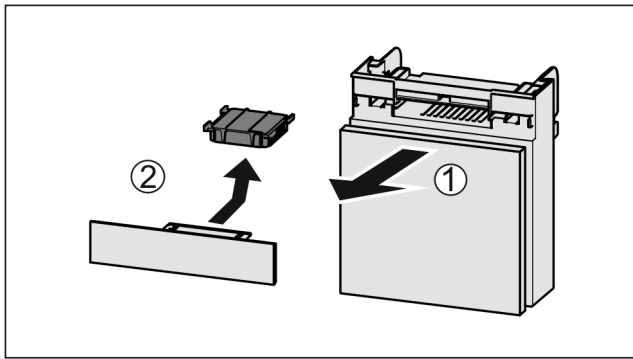

Fig. 76
- ▶ Pull out the compartment Fig. 76 (1).
- ▶ Remove the carbon filter Fig. 76 (2).